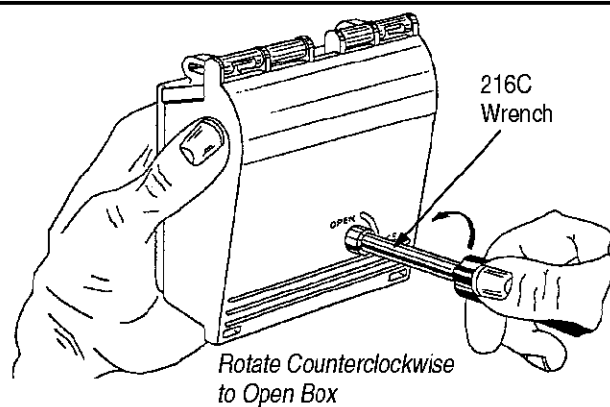

Figure 2
1. Using a 216C (3/8-in.) wrench, open the terminal by rotating the captive screw fastener COUNTERCLOCKWISE. Pull open the terminal cover. See Figure 2.